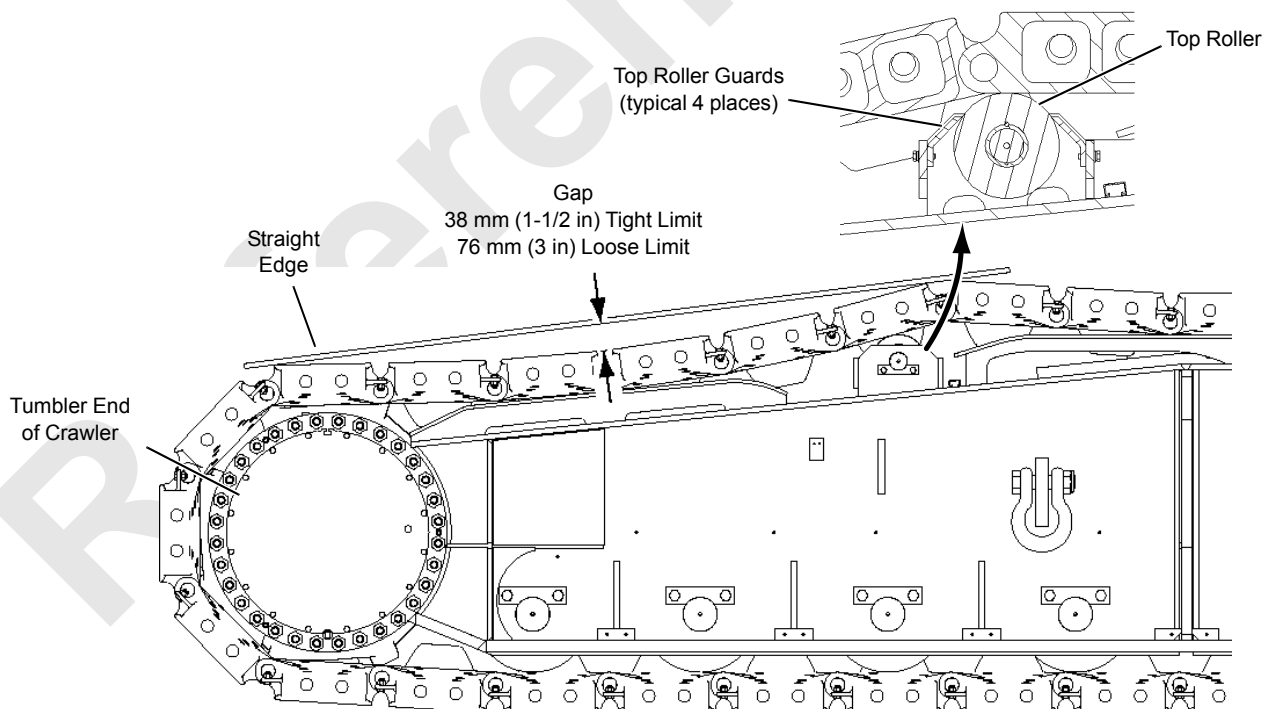

FIGURE 8-2
- Adjust top roller guards close to the top rollers without touching the rollers as shown in Figure 8-2.
1. Travel forward or reverse on a firm level surface so all tread slack is in the top of the treads at the tumbler end of the crawlers as shown in Figure 8-2.
2. Place a straight edge on the tread as shown in Figure 8-2. The gap between the straight edge and the top of the tread at the lowest point should be between 38 mm (1-1/2 in) and 76 mm (3 in).